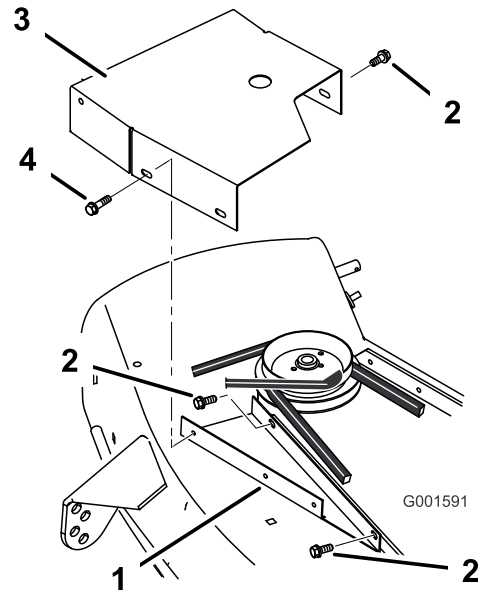

Figure 10
1. Attach the belt cover bracket to the mower deck with two (1/4 x 3/8 inch) screws (Figure 10).
2. Attach the front of the mower belt cover loosely to the belt cover bracket with two (1/4 x 1/2 inch) screws. Attach the back of the mower belt cover loosely to the mower deck with a (1/4 x 3/8 inch) screw (Figure 10).